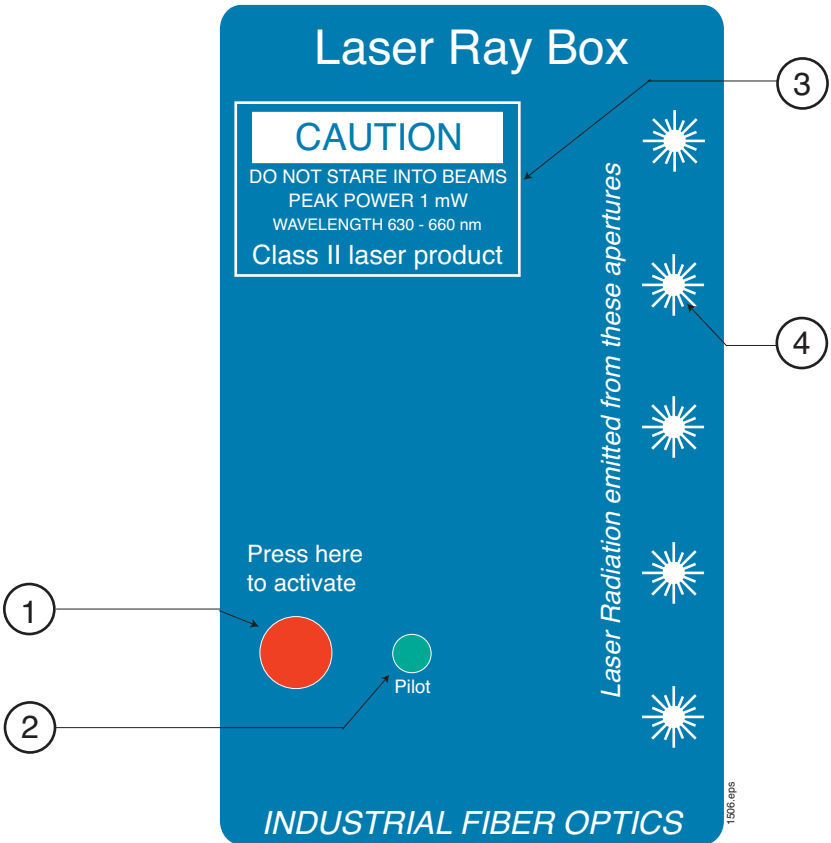
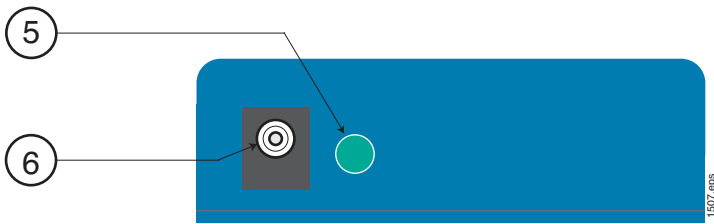

Figure 1. Top view of the Laser Ray Box.
Figure 2. Side view of the Laser Ray Box.
The optical on/off controls for the Laser Ray Box are located on the top of the chassis as shown in **Figure 1**. The electrical jack for charging the internal battery and the LED charging indicator are on the side of the ray box chassis as shown in **Figure 2**.
Class II lasers may not exceed 1 milliwatt (1 mW) of visible radiation (light), and must contain a pilot light and a beam attenuator. By design, the Laser Ray Box deviates from the standard labeling suggestions by the CDRH. Rather than apply a label designating the laser classification, Industrial Fiber Optics chose to engrave the designation into the aluminum chassis. Compared to conventional labeling, the laser engraving is permanent and can never be removed. The location of the laser engraved laser classification label and an illustrative example is shown as Item 3 of **Figure 1**.
The Laser Ray Box has a separate aperture symbol for each of the laser beams as shown in **Figure 1**. The symbols are along the edge of the enclosure face next to where the laser beams are emitted. They are permanently engraved like the classification label.
2. Plug the cord from the power adapter into the power jack (PWR) located on the side of the Laser Ray Box as indicated in Figure 2. The Charging Indicator Light should illuminate, indicating that the internal battery pack is charging.